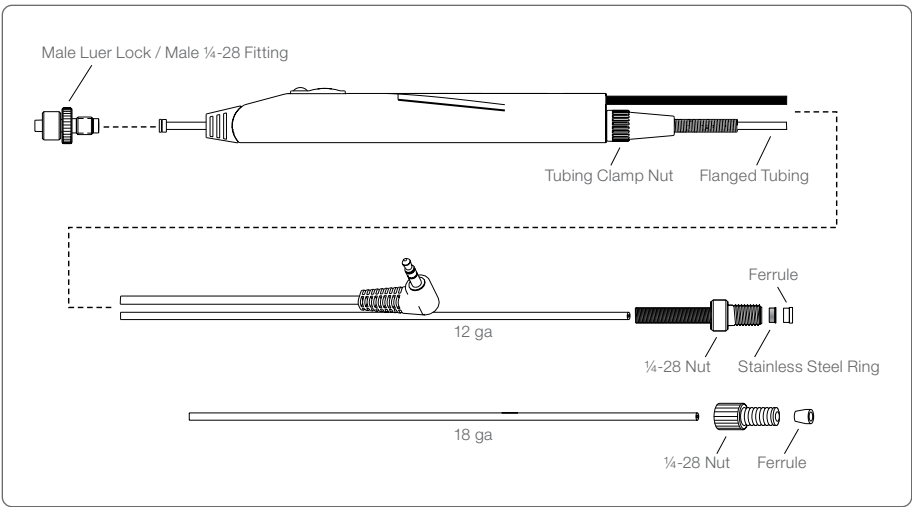

Figure 2: Final Assembly of Concorde CT Hand Probe with Luer Lock Conversion Kit
9. The Concorde CT Hand Probe should now look like Figure 2.